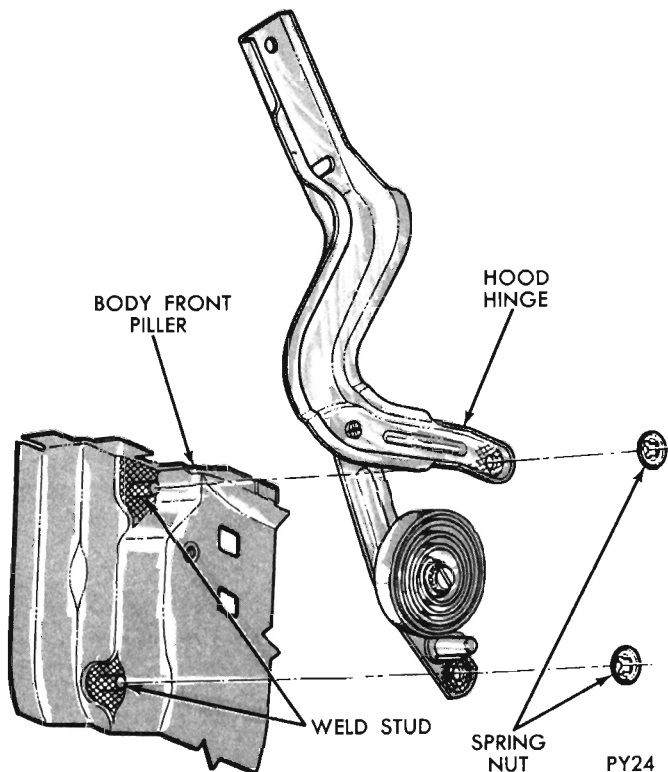

Fig. 2 - Hood Adjustment
- (1) Place a protective covering over cowl and fender area.
- (2) Mark outline of hinges on hood to aid in installation.
- (3) With an assistant, remove hinge-to-hood bolts (Fig. 2) and remove hood assembly. **Use extreme care not to permit hood to slide rearward and damage painted surfaces of the cowl and fender areas.**
- (1) With an assistant, position hood on hinges and install hinge to hood bolts. Do not tighten.
- (2) Align scribe markings on hood with hinge and tighten screws lightly.
- (3) Close hood and inspect alignment.
- (4) Adjust alignment (Figs. 2 and 3) as necessary and tighten hood to hinge bolts 180 inch-pounds.
- (1) Disengage torsion bar roller from hood hinge.
- (2) Scribe hinge location on hood and remove hinge to hood screws.
- (3) Support hood at hinge area.
- (4) Remove hinge stud spring nuts from studs (Fig. 2) and remove hinge.